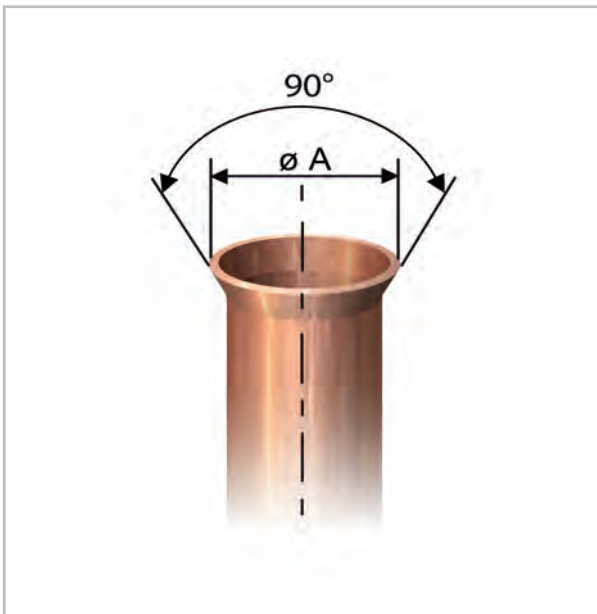

Fig. 39: Correct flange shape
9. ➤ Verify that the shape of the flange is correct (Fig. 39).